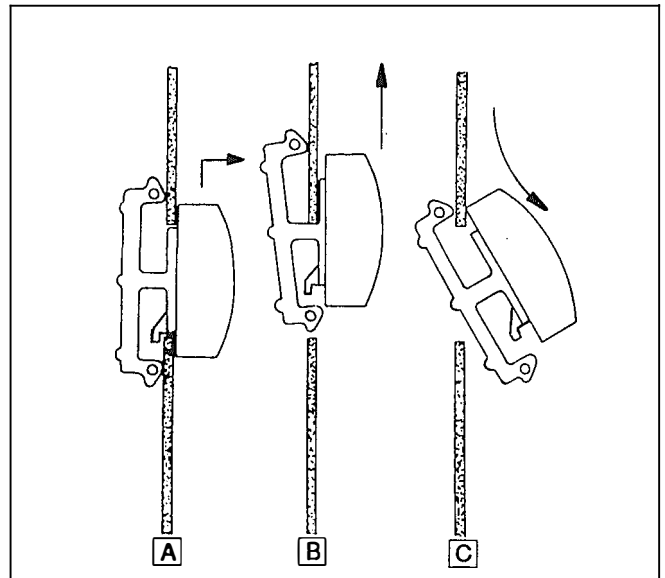

Figure B8 - Door Shelf Removal
1. Pull out on the top of the end cap, and lift it up in the inner panel opening as far as possible. See Figure B8.
2. Swing the bottom of the end cap out of the inner panel opening, and pull it down and out. See Figure B8.
1. Pull out on the bottom of the end cap, and push it down in the inner panel opening as far as possible. This is the same as shown in Figure B8, except reverse the directional procedure.
2. Swing the top of the end cap out of the inner panel opening, and lift it up and out. This is the same as shown in Figure B8, except reverse the directional procedure.